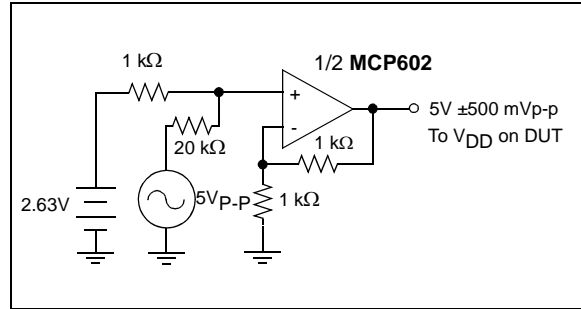

FIGURE 1-4: Power Supply Sensitivity Test Circuit (PSRR).
4: $V_{DD} = 5V$ DC ± 500 mV_{P-P} @ 1 kHz, see test circuit Figure 1-4.
- Note 4:** $V_{DD} = 5V$ DC $\pm 500 \text{ mV}_{P-P}$ @ 1 kHz , see test circuit Figure 1-4.
- 4: $V_{DD} = 5V$ DC ± 500 mV_{p-p} @ 1 kHz, see test circuit Figure 1-4.